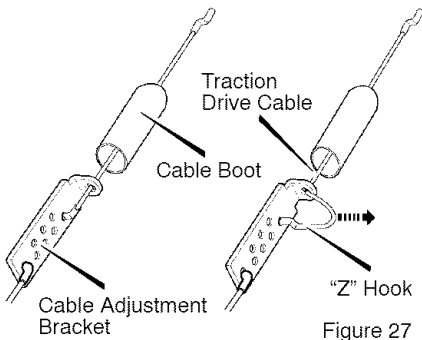

Figure 27
6. Slide the **cable boot** off the **cable adjustment bracket** (see Figure 27).